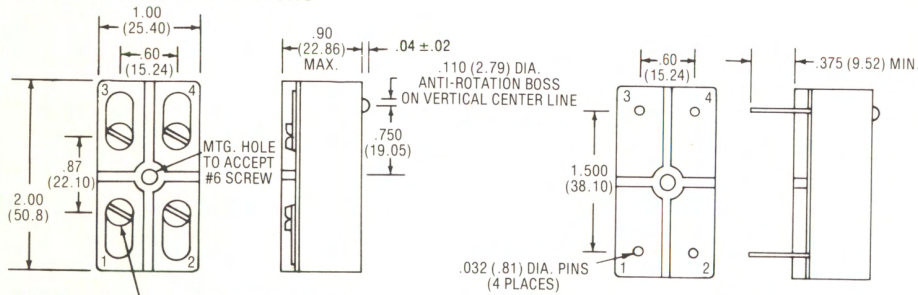
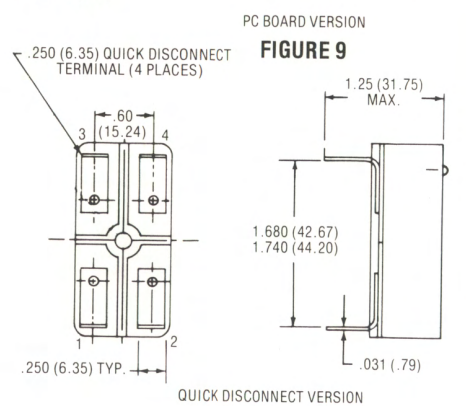

FIGURE 8
FIGURE 9
1. Basic part number provides for screw terminals only (Fig. 8). For PC Board pins add suffix "P" to part number (Fig. 9) for quick disconnect terminals, add suffix "Q" (Fig. 10). Example: 603-2P.